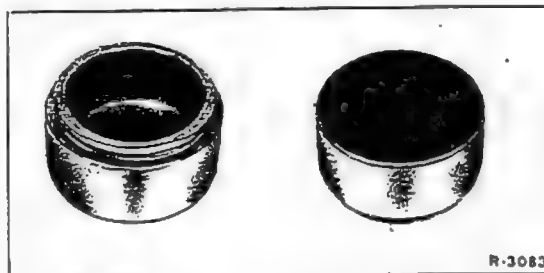

Fig. 42-12/32
4. Put a new dust cap (9) on the piston (2) (Figs. 42-12/28 and 30).